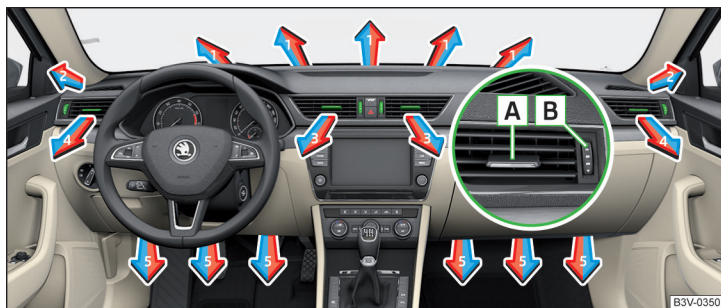
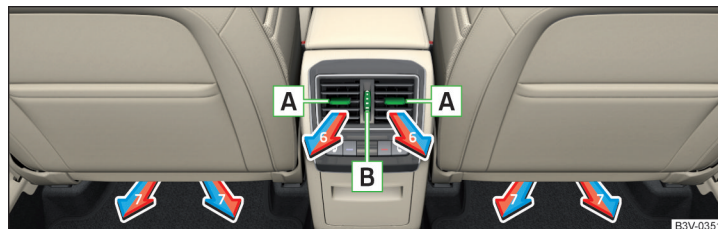

Fig. 146 Air vents at the front
Fig. 147 Air vents at the rear
The direction of airflow can be adjusted using the air outlet vents **3, 4** » Fig. 146 and **6** » Fig. 147, and the vents can be opened and closed individually.
The setting of the airflow direction is carried out by moving the adjustment element **A** » Fig. 146 or » Fig. 147 in the desired direction.
- > To **open**, turn the controller **B** » Fig. 146 or » Fig. 147 upwards.
- > To **close**, turn the controller **B** » Fig. 146 or » Fig. 147 downwards.
| Set the direction of the air outlet | Air vents » Fig. 146 and » Fig. 147 |